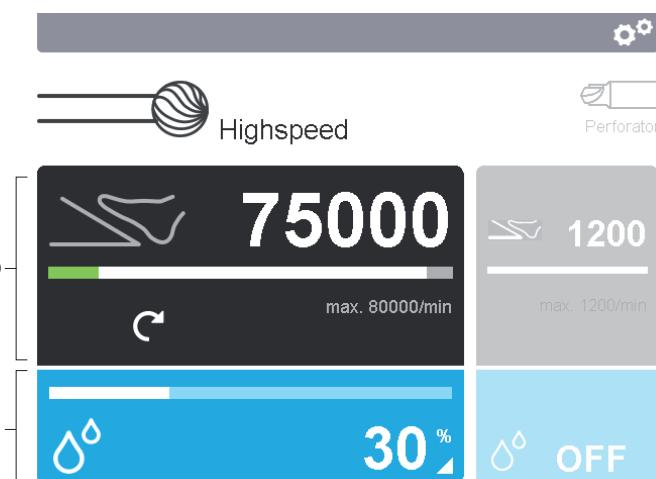

Fig. 5 Activating the control panel
- Changing the setting parameters of the applied part: Activate the applied part control panel **b** in the display **2**, see Fig. 5.